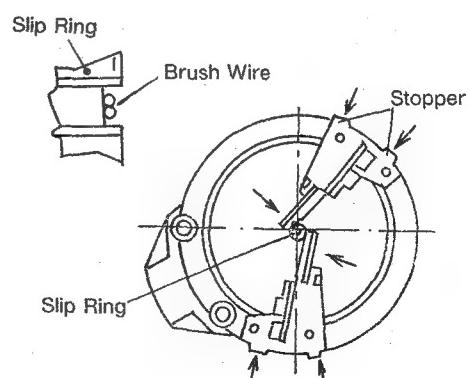

Fig. 7-11-2
- 1) Loosen 4 screws (b) and adjust the brush unit position so that stopper of the brush unit contact to the upper cylinder. And tighten 4 screws (b) as shown in figure 7-11-2.
- 2) Confirm that the brush contacts to the slip ring properly as shown in figure 7-11-2.